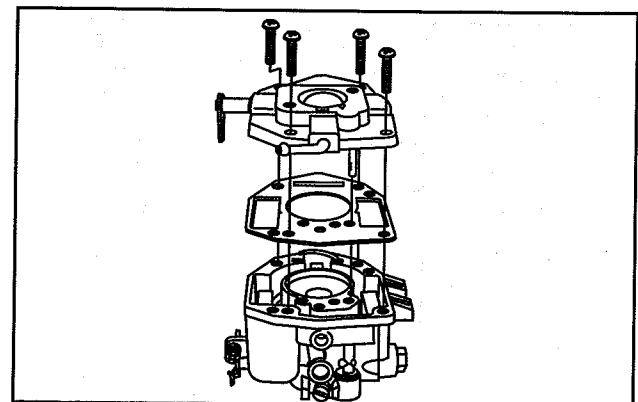

Fig. 97 – Install Upper Body
2. Install upper carburetor body, Fig. 97.